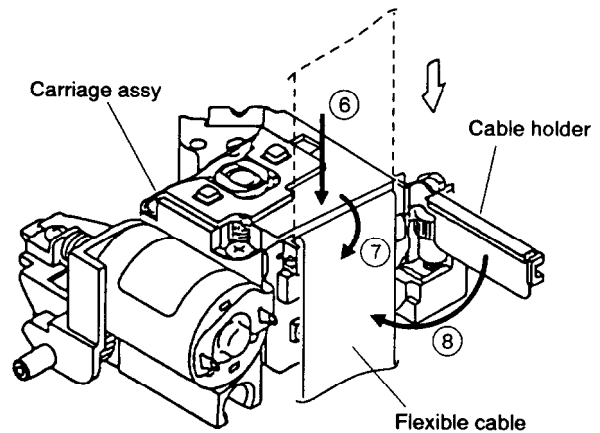

Fig. 19
6. Insert the (X) edge side of flexible cable to connector of the carriage assy after passing through the Cable holder. (Fig. 19)